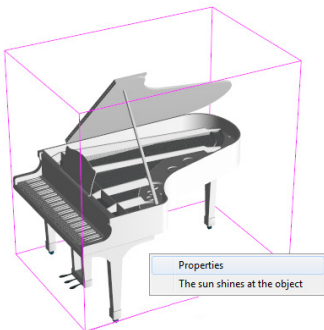

Fig. 288 – an object without textures in visualization – invoked context menu
- to do so, double click on the selected object with a left mouse button and then click the right button to develop a context menu, in which select the **Properties** position (Fig. 288);